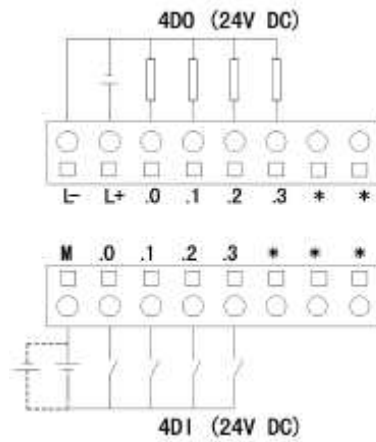

Figure 3-1-12 LM3230 Terminal Definition & Wiring
- M end of DI channel in Figure 3-1-12 is the common end of external DI, user can choose to connect M end to the positive or negative end of sensor power supply 24VDC to adapt to source/sink type DI.
- L+ and L- of DO channel in Figure 3-1-12 are the positive and negative ends of 24VDC external load drive power supply.